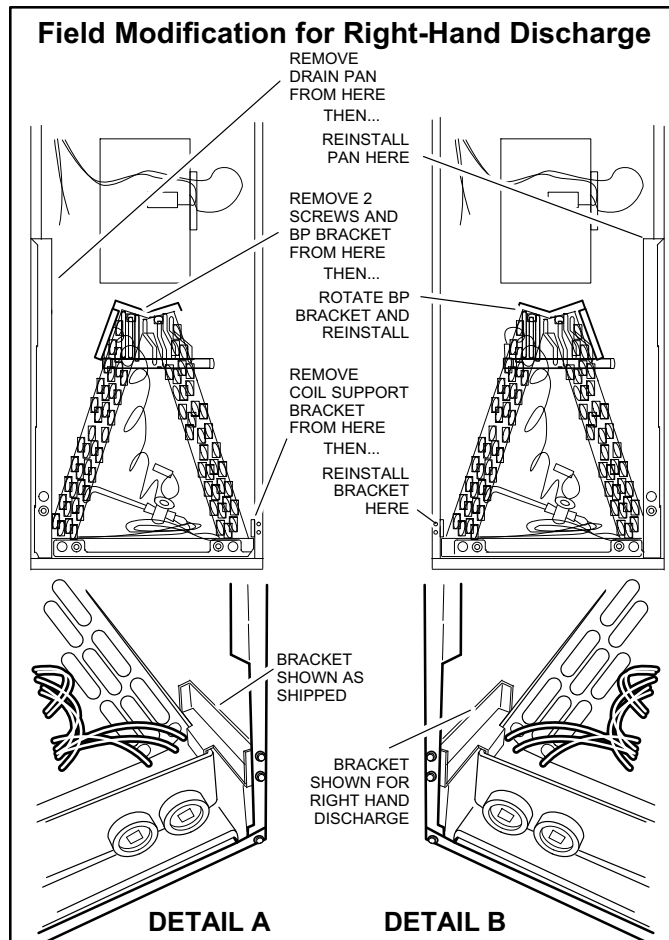

FIGURE 12
2. Remove the coil support bracket (see detail A, figure 12).
5. Remove two screws and blow-off prevention bracket (BP BRACKET in figure 12). Rotate the bracket 180° and reinstall using the same screws.
8. Install the coil support bracket on the opposite side of the air handler (detail B, figure 12)..